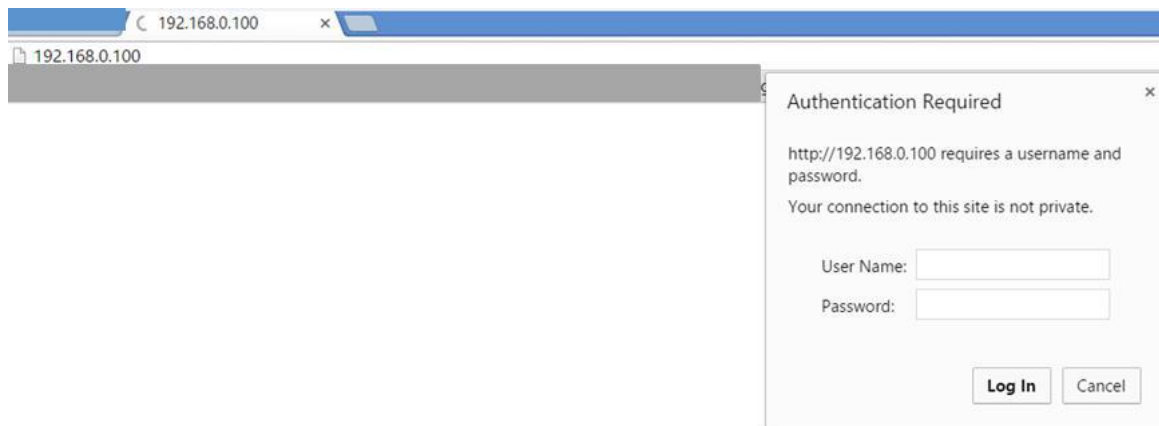

Figure 19 Front projector IP address
- g. Type” <http://192.168.0.100>” as below Figure 19.